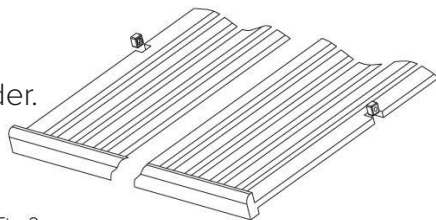

Fig. 2
- To remove a shelf from the WCCF0302, WCCF0602, WCCF0622, CFWC304, CFWC604, CFWC624 first remove all bottles from the shelf, then pull the shelf forwards until the groove on either side of the shelf is level with the plastic peg on either side of the cabinet (as shown in Fig 2). Then lift